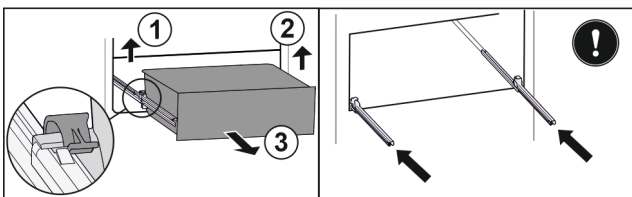

Fig. 137
- ▶ Lift left clamp and simultaneously pull drawer forwards on the left. Fig. 137 (1)
- ▶ Lift right clamp and simultaneously pull drawer forwards on the right. Fig. 137 (2)
- ▶ Remove drawer to the front. Fig. 137 (3)